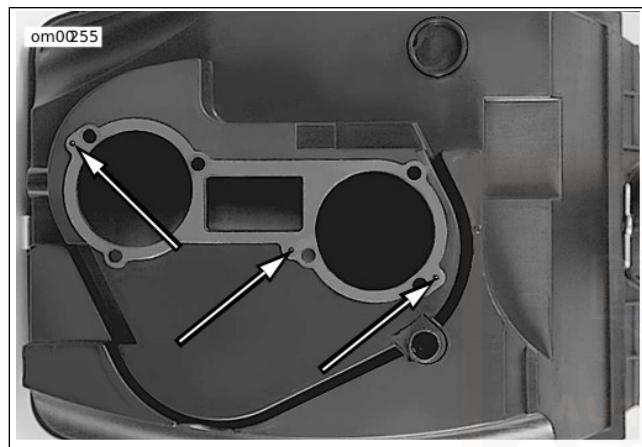

Figure 60. Air Cleaner Gasket and Alignment Pins
11. See Figure 60. Inspect the gasket on the bottom of the airbox tray. The gasket is located by the three alignment pins on the mating surface.
15. See Figure 60. Align the index marks and install the velocity stacks, the longest stack toward the front of the motorcycle. Start all fasteners by hand first, making sure none are cross-threaded. Tighten the three fasteners on each velocity stack to 6 N·m (53 **in-lbs**).